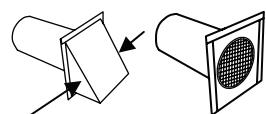

Figure 3
Step 2: Remove the hood of the air tube by tapping on both sides of the hood with a hammer until it comes loose leaving the tube with a square flange and screen. (Figure 3)